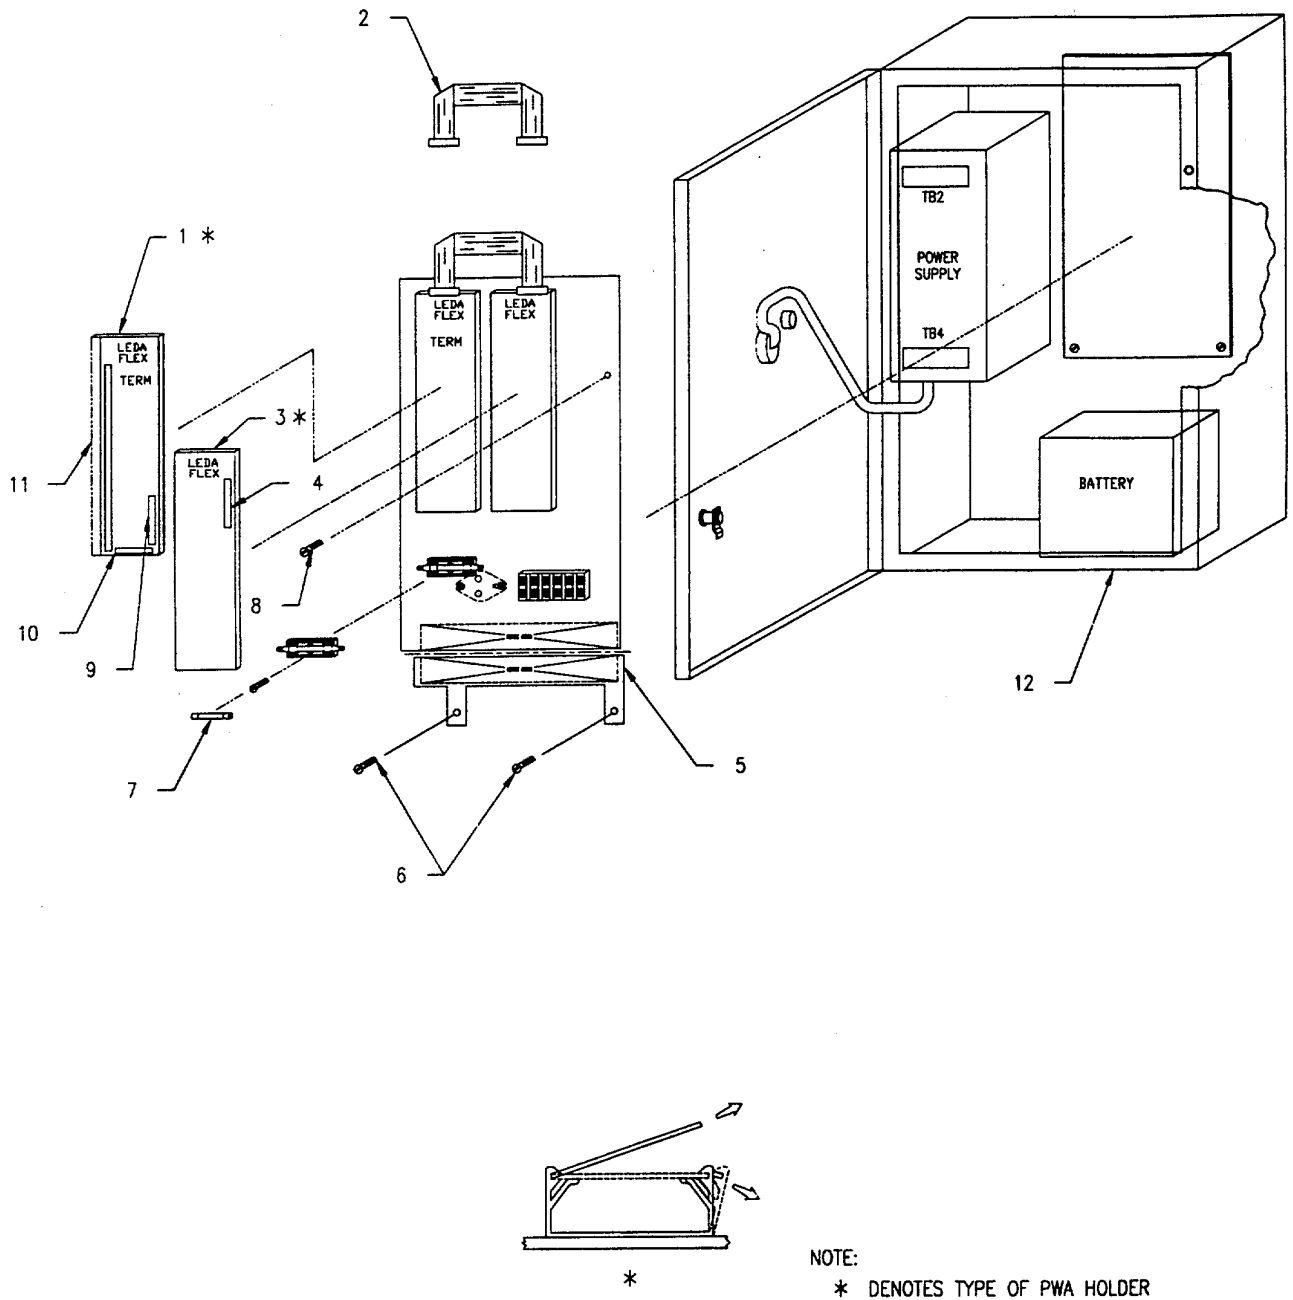

Figure 3-46. Removal and Replacement of J-SIIDS Leda Interface Assemblies
**3-91. REPLACE J-SIIDS LEDA INTERFACE ASSEMBLY (Hinged). (See Figure 3-46).****This task consists of:****a. Remove****b. Install**
- (1) Align the J-SIIDS Leda Interface Assembly (5) up with the two J-SIIDS enclosure standoffs and secure the Assembly with two screws (6).
- (2) Raise the hinged panel assembly (5) and secure to J-SIIDS enclosure (12) with screw (8).
- (3) Using a flat tip screwdriver, connect the tagged wires to TB-1 through TB-6 (11), TB-7(10) and TB-8 (9).
- (4) Connect the tagged slip-on terminal strip to Leda Flex PWA (3) TB-7 (4).
- (5) Reconnect input power.
- (6) Close, lock and secure the J-SIIDS enclosure door.
**3-92. REPLACE J-SIIDS LEDA FLEX PWA. (See Figure 3-46).****This task consists of:****a. Remove****b. Install**
- (1) Set link settings and/or switch settings exactly the same as removed PWA or refer to Appendix E, page E-44.
- (2) Press out on side of snap track PWA holder (\*) and install Leda Flex PWA (3) in snap track alignment slots and release.
(3) Connect ribbon cable (2) to connector P1.
- (4) Connect slip-on terminal strip to TB-7 (4).
- (6) Replace enclosure cover and secure.
**3-93. REPLACE J-SIIDS LEDA FLEX TERMINATION PWA. (See Figure 3-46).****This task consists of:****a. Remove****b. Install**